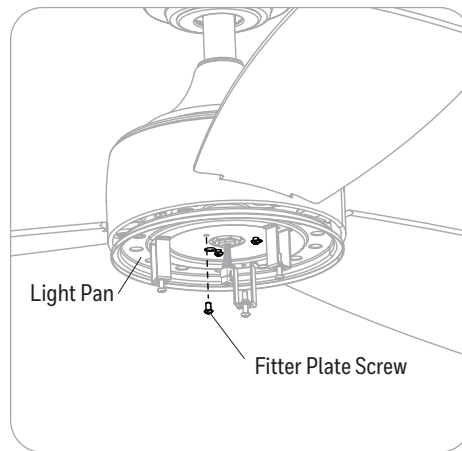

Figure 5.5
5. Remove one of the three fitter plate screws from the fitter plate and loosen the other two. Then, insert the wires from the fan through the hole in the light pan. Attach the light pan to the fitter plate by twisting the light pan clockwise until the loosened fitter plate screws engage the key slots on fitter plate. Re-install the third fitter plate screw into the open hole in the light pan and securely tighten all three fitter plate screws (Figure 5.5).